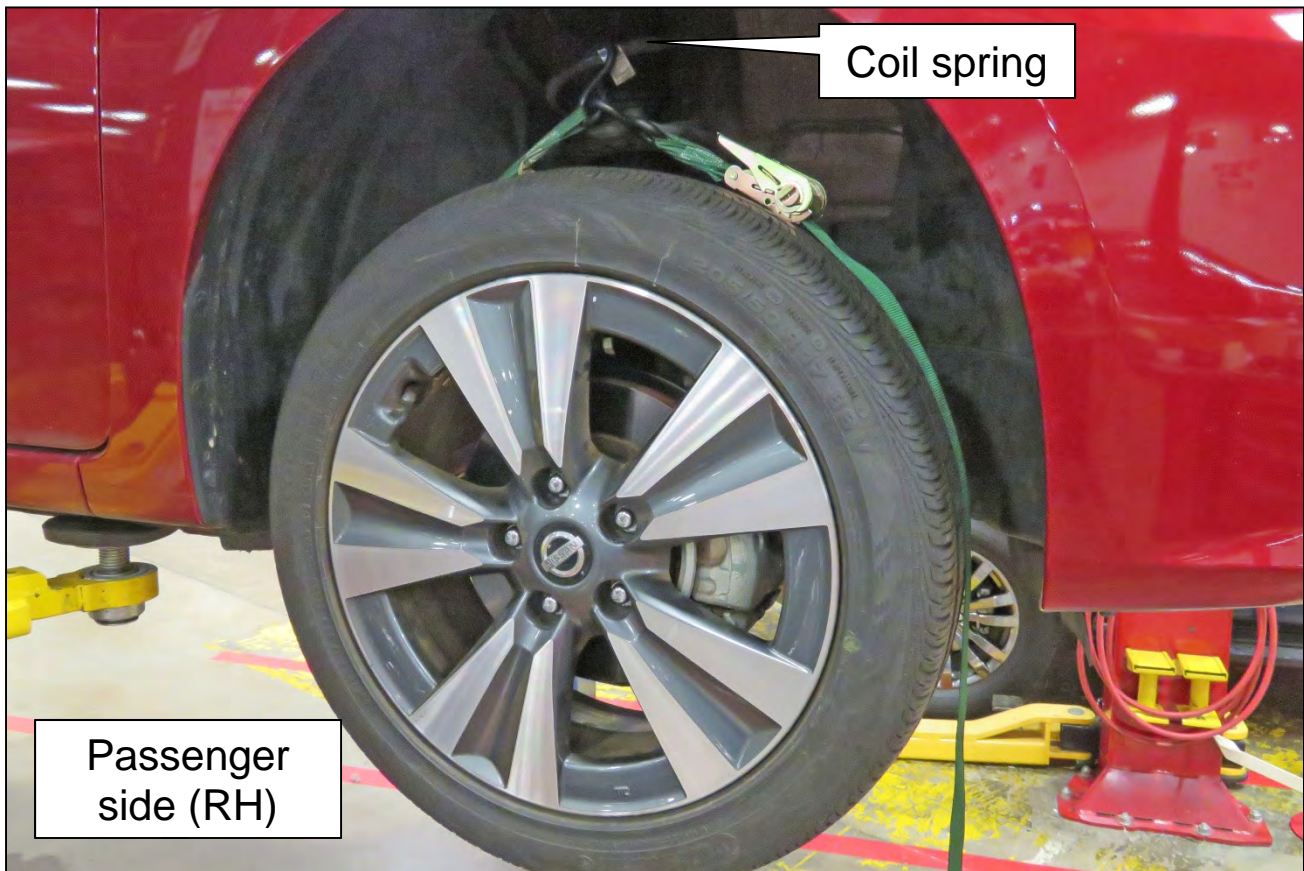

Figure 27
15. Secure the passenger side (RH) front wheel with a suitable strap.
- a. Connect the first hook of the strap to the coil spring as shown in Figure 27.
- c. Tighten the strap sufficiently to keep the passenger side (RH) front tire from rotating but do not overtighten.